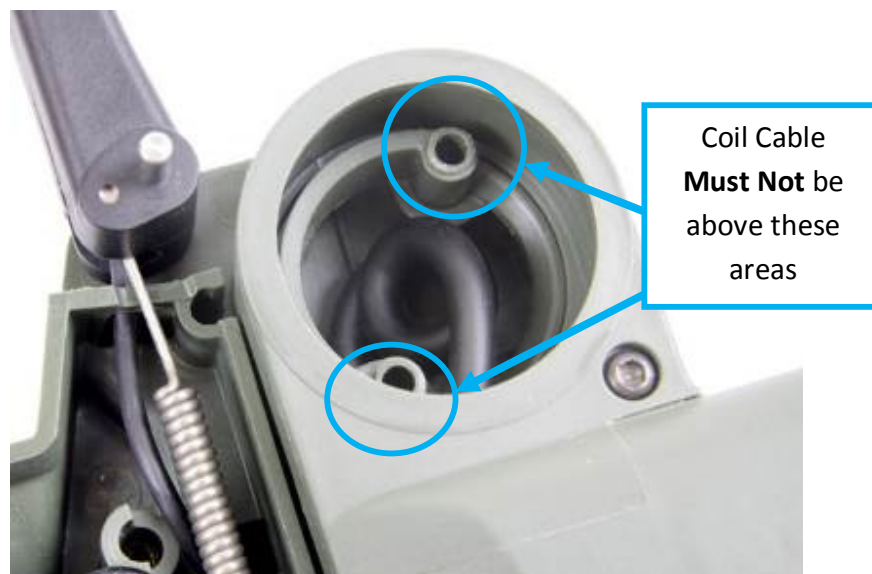

Figure 20: Coil Cable Position in Shaft Hinge
- Fit the coil cable into the cable router and check that the loop of coil cable within the shaft hinge is positioned so that it will not be trapped when the detector body is closed. Refer to Figure 20.
- Remove the hinge cover to check the coil cable is not trapped within the shaft hinge. Refer to figure 20.